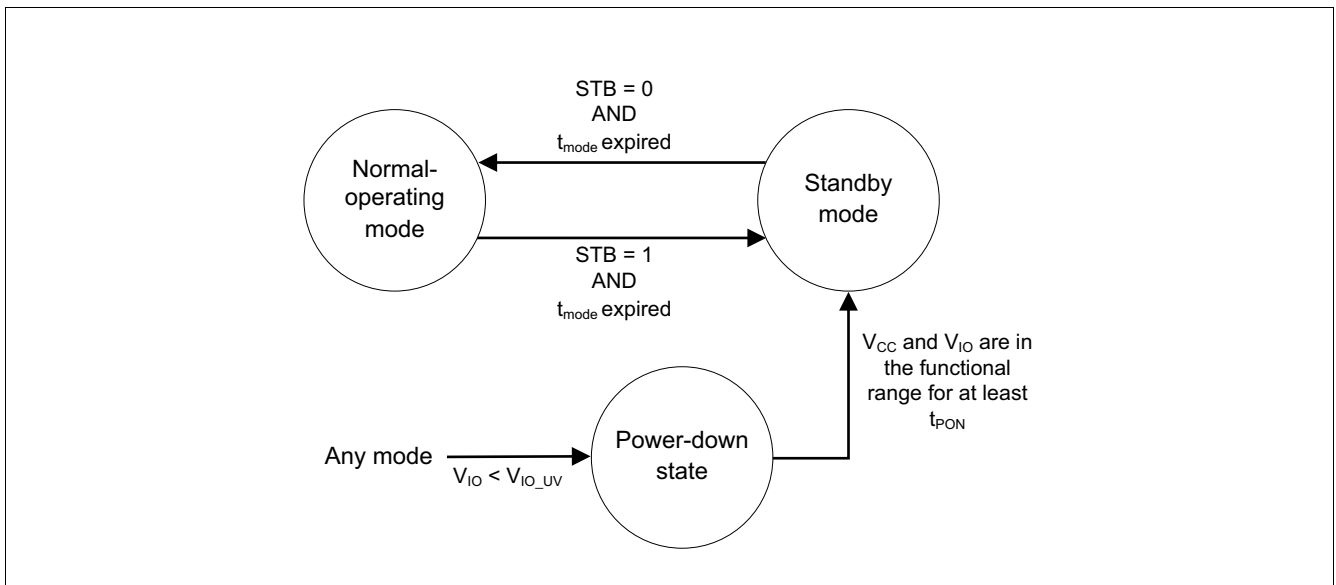

Figure 4 Mode state diagram
The device supports the following modes of operation, see **Figure 4**:
- If $V_{IO} > V_{IO_UV}$ and the STB pin is “low”, then the device enters normal-operating mode after t_{Mode} from standby mode, see Figure 4